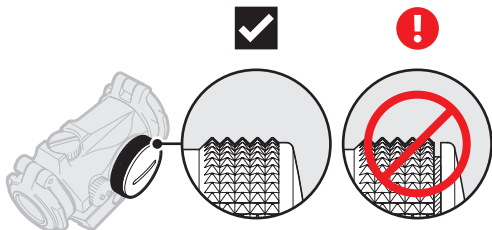
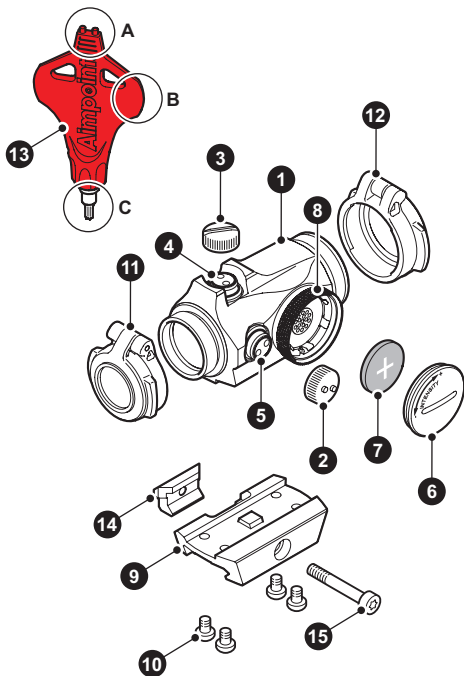

Fig. 1 ➔ 2.1
Fig. 3  1.2
See Fig. 3
- a Remove battery cap (6) using the tool (13B).
- b Insert battery (7) with the positive end (+) toward battery cap (6) as can be seen in Fig 3.
- c Turn to the rotary switch (8) to intensity setting 12 (max.) and tighten the battery cap (6) with the tool (13B). When resistance is encountered, proceed to tighten until the battery cap (6) comes to a **stop**.
- d Verify that the red dot is present and that there is zero gap between the battery cap (6) and the battery compartment. See Fig. 1.